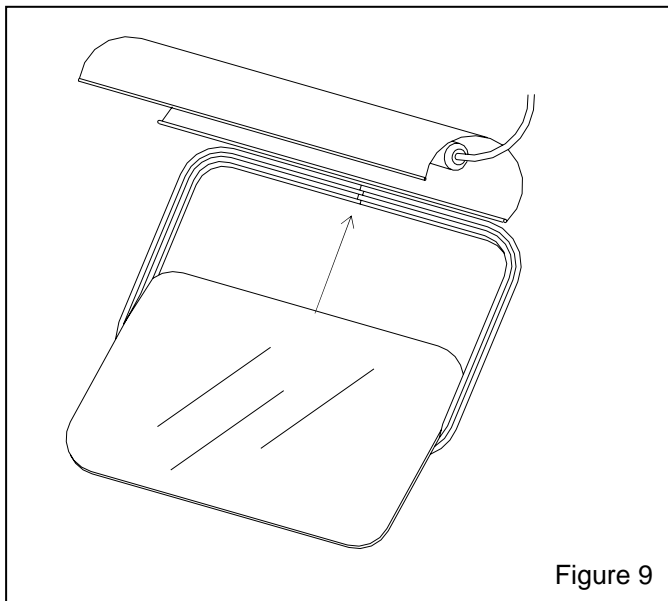

Figure 9
6.3.6. Spray silicone lubricant into the window channel (wide channel) on the molding, and slide the window into the channel, as shown in Figure 9. Place an arm into a glove to support the top edge of the bottom side of the window with one hand, while guiding the top edge into the molding with the other.